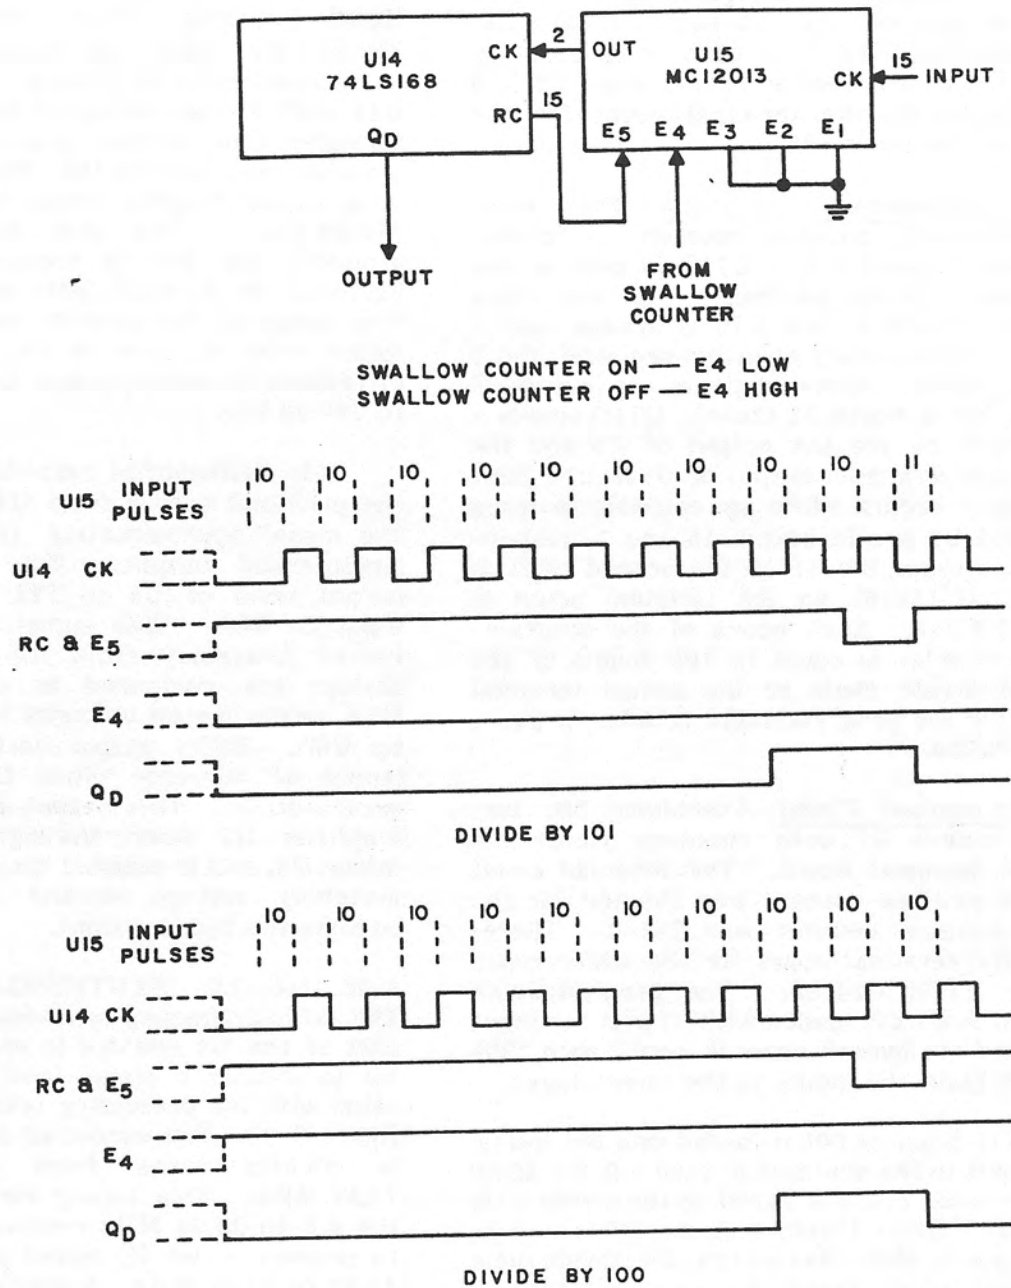

Figure 3-19. 2nd Lo Prescaler Timing Diagram
e. Programmable Phase Lock Loop. The programmable phase lock loop incorporates a two-modulus prescaler, swallow counter, divider, phase detector, filter, and vco. The output of this loop, from Q7, feeds into U15 and U16. U14 and U15 form a prescaler whose divide ratios are 100 and 101. Figure 3-19 illustrates the prescaler operation. Individually, U15 is a divide-by-10 or 11 counter and U14 is a divide-by-10 counter. Cascading the two counters results in divide ratios of 100 and 101. U15 divides by 11 when both E5 and E4 are at a low state. This occurs only during the swallow counting sequence when E4 is held low by U11C. U15 divides by 10 for 90 input pulses from the vco. Because of this, nine input pulses enter U14 at pin 2. At this point the U14 ripple clock output, pin 15, goes low for one input pulse. This enables U15 to divide by 11 once. Therefore, dividing by 10 nine times (9×10) and dividing by 11 once (1×11) results in a divide ratio of 101 ($90 + 11$). This division of 101 occurs until the swallow counter (U7 and U8) reaches terminal count. From this point, E4 of U15 remains high until the divider reaches terminal count, thus dividing by 10. U11B and U11C detect the state of the swallow counter while U11D detects the terminal count of the divider.